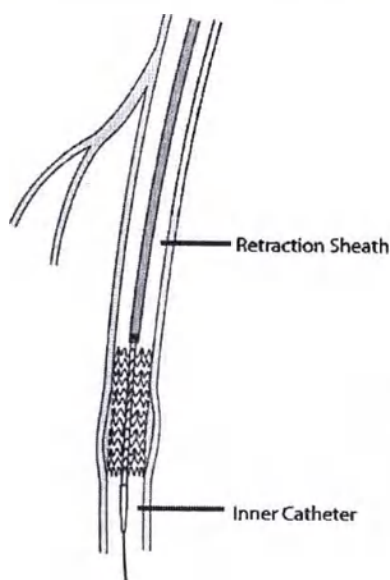

Fig.8
5. Full deployment of the stent length will occur when the distal end of the retraction sheath has been retracted past the proximal radiopaque markers of the stent (**Figure 8**).